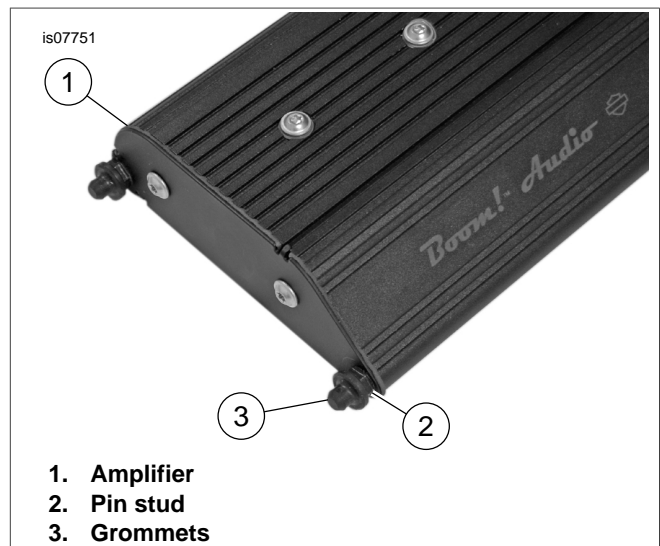

Figure 6. Amplifier Pin Studs
6. See Figure 6. Install the amplifier pin studs in the amplifier. Tighten to 7-9 ft-lbs (9.4-12.2 Nm). Install the grommets.